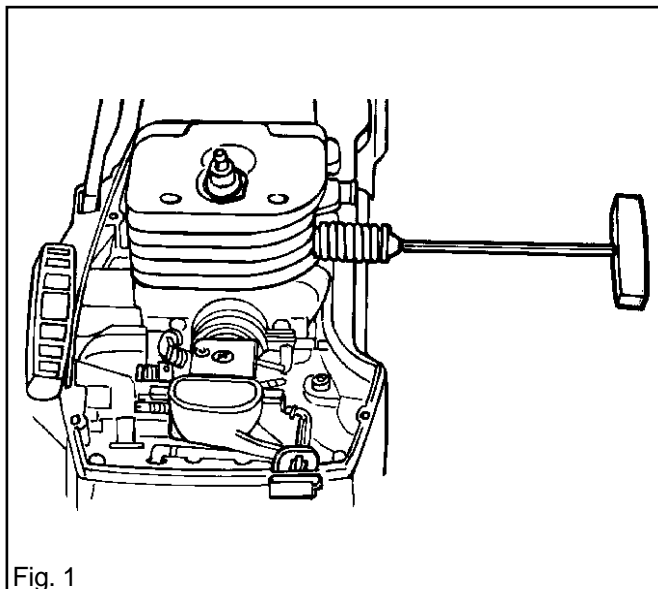

Fig. 1
2. Detach the springs from the cylinder with the help of a 4 mm Allen key. See fig. 1.
2. Attach the springs to the cylinder with the help of a 4 mm Allen key. See fig. 1. Tighten the bolts to 10 Nm.